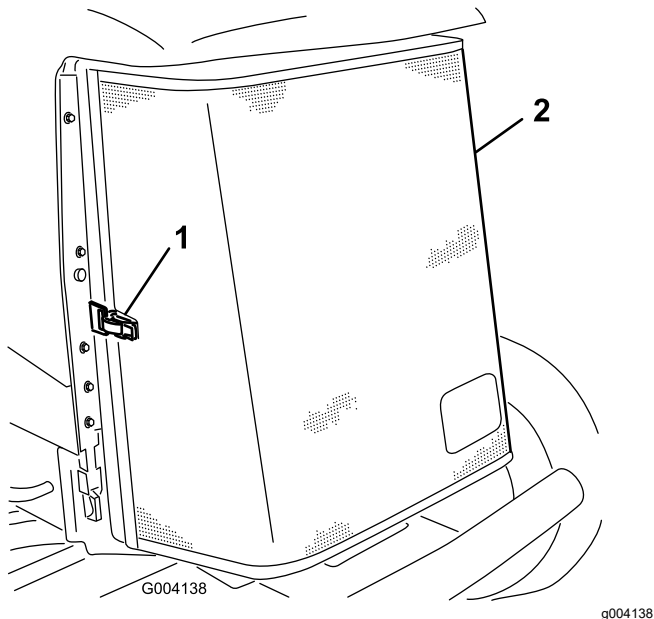

Figure 112
- Unlatch the rear screen and pivot it open (Figure 112).